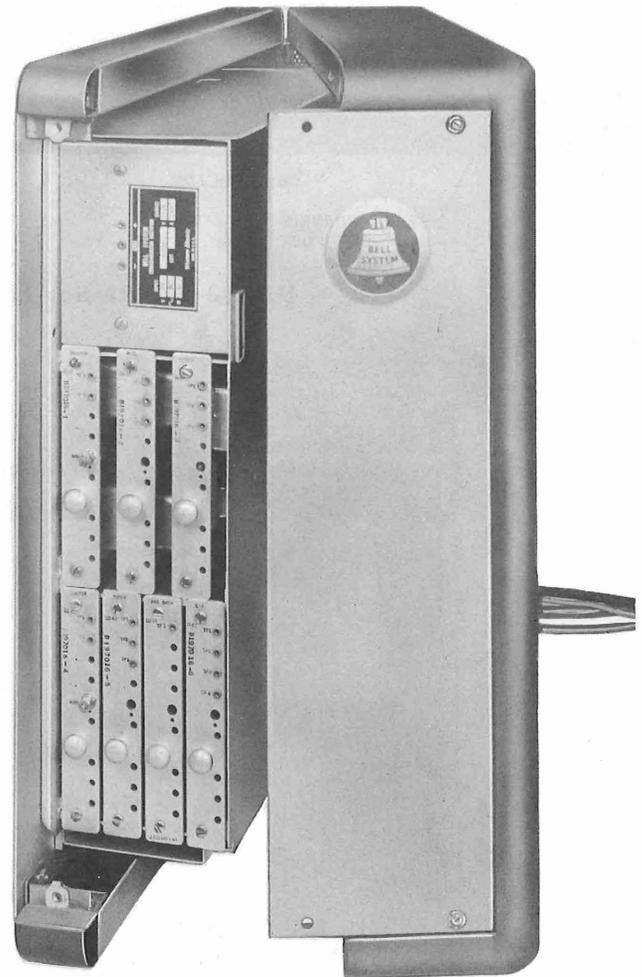

Fig. 1 - Data Set, Vertical Mounting
1.03 The data set may be placed on top of a desk or table or may be mounted on a wall or on the side of a desk or table. When mounted in a vertical position, cover medallion should be rotated to the proper position (Fig. 1). The medallion is held on with two speed nuts located inside the cover.